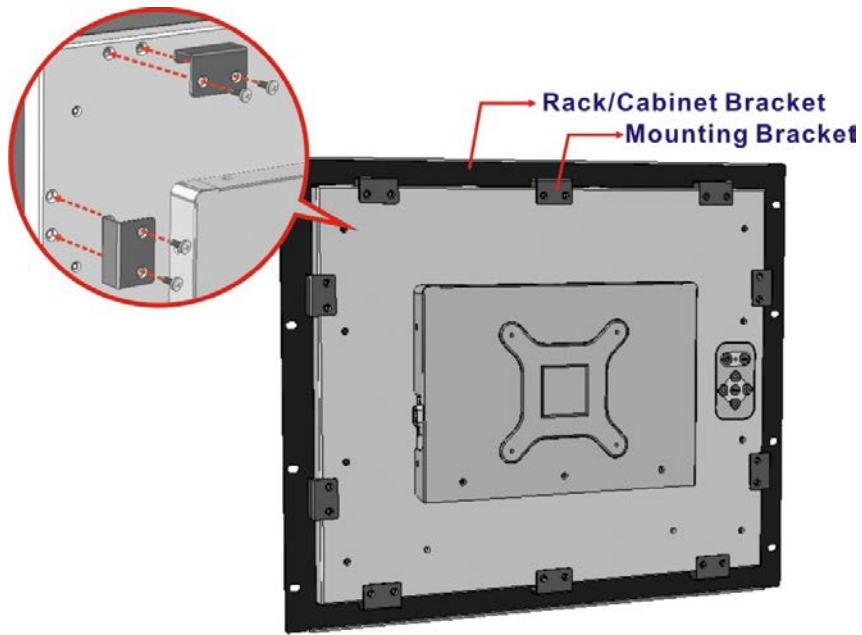

Figure 3-37: Secure the Mounting Brackets
Step 2: Secure the rack/cabinet bracket to the monitor. To do this, secure the 10 mounting brackets to the corresponding screw holes on the rear of the monitor using the provided retention screws (**Figure 3-37**).